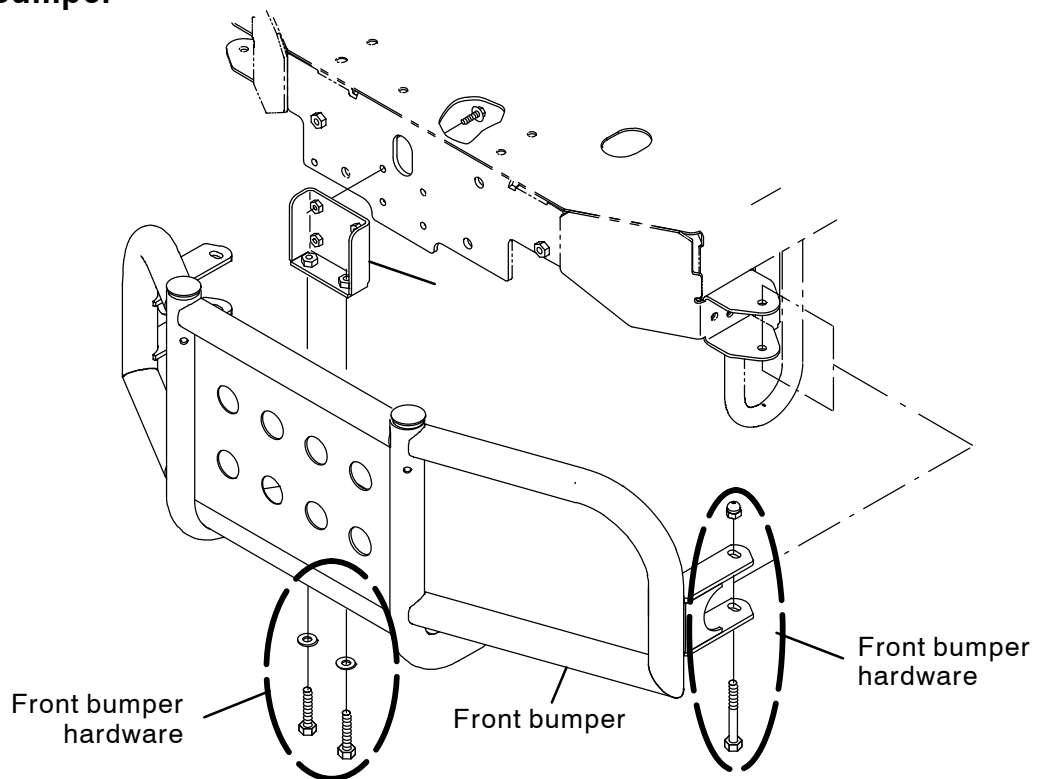

FIG. 1
1. **Machines equipped with Overhead Guard and Front Bumper Only:** Remove all hardware securing the overhead guard assembly to the front bumper. (Fig. 1)
2. **Machines equipped with Front Bumper Only:** Remove the front bumper from the machine. (Fig. 1)